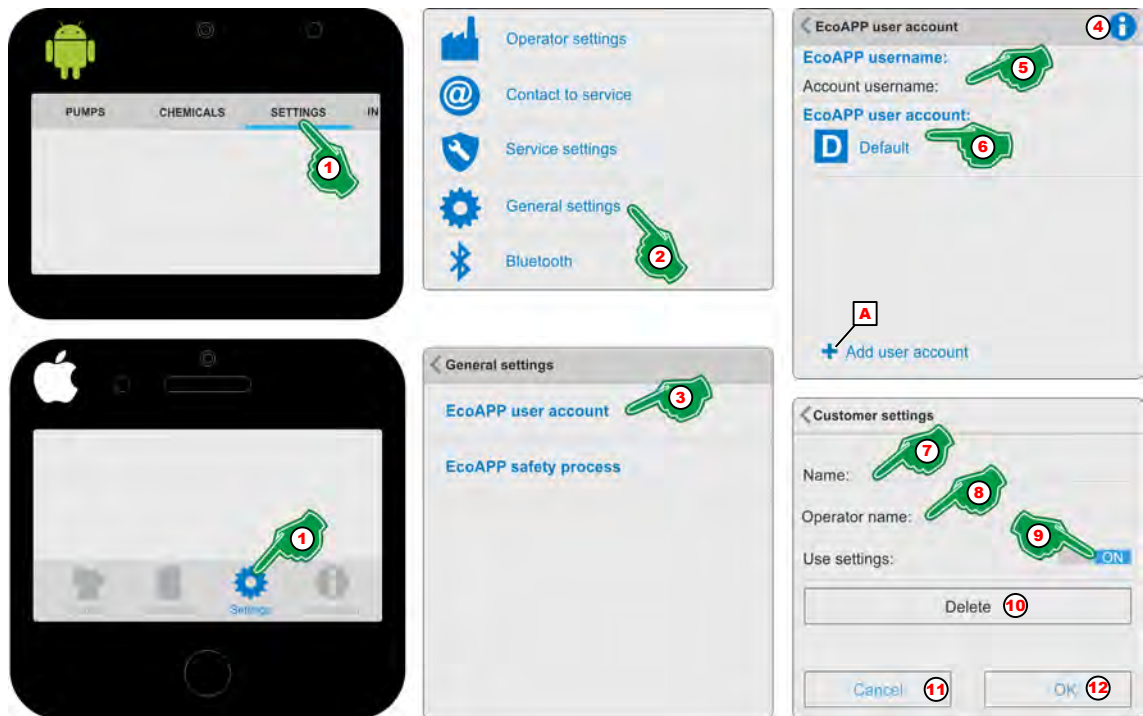

Fig. 15: Create a user account for the 'EcoAPP'
1. ➤ Select [Settings] (Fig. 15, Pos. 1).
2. ➤ Select [General settings] ⚙️ (Fig. 15, Pos. 2).
- [EcoAPP user account] (Fig. 15, Pos. 3)
3. ➤ Select [EcoAPP user account] (Fig. 15, Pos. 3).
4. ➤ With the selection of the [Info] ⓘ Symbol (Fig. 15, Pos. 4), the display will be:
5. In the menu field for the 'User name' (Fig. 15, Pos. 5) menu field (e.g., the name of the Smartphone user).
6. In the menu field for the 'EcoAPP user account' (Fig. 15, Pos. 6) select 'user account' 'Default' .
7. Enter 'Name' (Fig. 15, 7) (for instance, metering line 1 / plant 1, etc.).
8. Input the 'Operator name' (Fig. 15, Pos. 8).
9. [ON / OFF] Switch (Fig. 15, Pos. 9) to **ON** if the setting is to be used.
If you want to add another user account, press the key '+ Add user account' (Fig. 15, Pos. A) can be used.
11. Press the [OK] button (Fig. 15, Pos. 12) to save the settings.
12. Press the [Cancel] button (Fig. 15, Pos. 11) to cancel the settings.